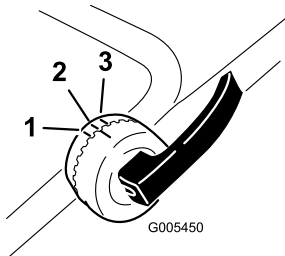

Figure 4
2. Unlock the upper handle locks and rotate the upper handle upward and lock it into a position that is comfortable to you (Figure 4).
Note: You can set the upper handle to 1 of 3 handle positions. Line up the mark to one of the 3 marks on the inner side of the upper handle locks (Figure 4).